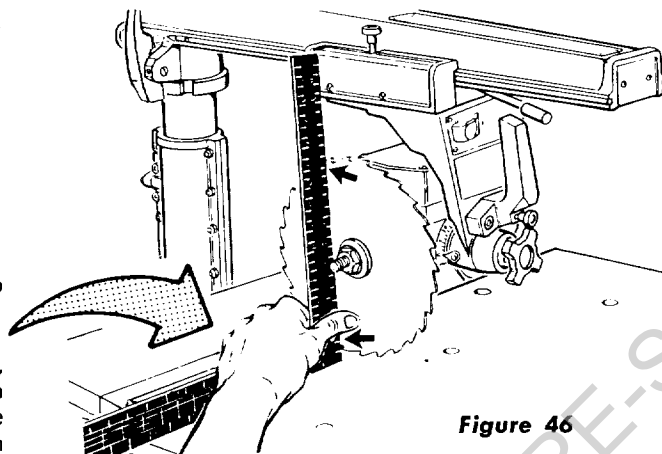

Figure 46
- (1) Place the edge of a framing square on the table top and against the saw blade as shown in figure 46.
- (2) When the saw blade is square to the table top, the leg of the square will touch the blade at both positions indicated by arrows in figure 46. If the square does not touch the blade at both positions, perform the following operations: